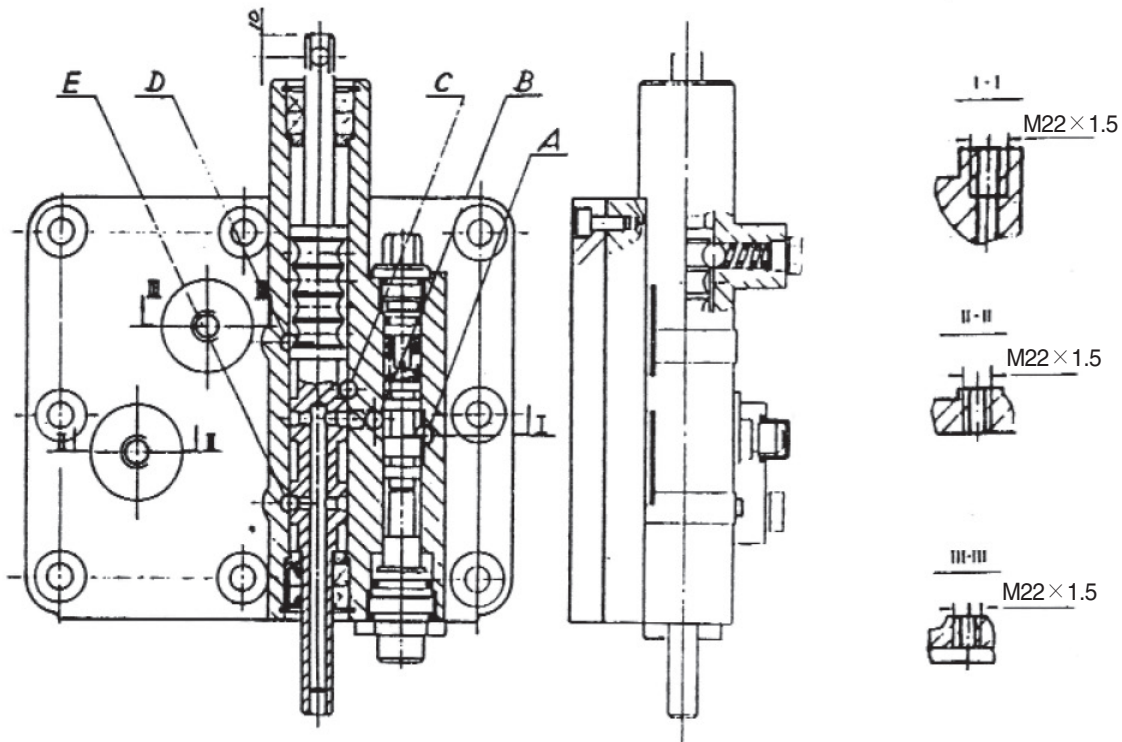

Figure 5 Transmission control valve assembly
- (1) Mounting sizes of transmission control valve lever are as illustrated in the figure 5. After the lever is pulled to the most outside gear, Neutral, gear I and gear II are gained in order by moving inside. The sizes are $L_{max}=51$ mm, $L_{min}=15$ mm and stroke per gear = 12 mm.
- (2) Connection screw on the end of brake control valve is connected to the air pipe of brake master cylinder.
- (3) Inlet for transmission control is located in I - I as illustrated in figure 5.
- (4) Inlet for spray oil of transmission is located in II - II .
- (5) Inlet for cooling transmission is located in III-III. (3) and (4) is connected to each correct port on combined valve of torque converter. (5) is connected to oil outlet of radiator.